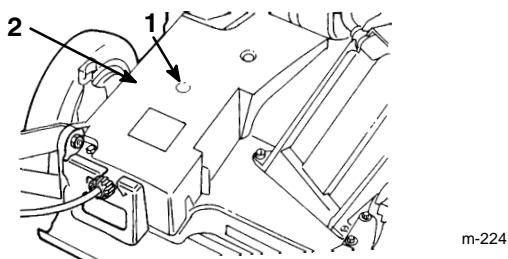

Figure 28
2. Install grease gun onto fitting thru belt cover opening (Fig. 28). Gently apply 1-2 pumps of grease.
1. Remove bolts securing belt cover (Fig. 28) to mower housing.